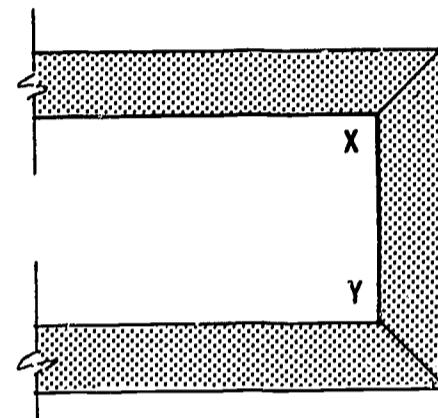

Fig. 62. Forming an inside corner to an inside corner
- If the corner to be formed is like corner X in Fig. 62 (that is, the wall extends from an inside corner to an inside corner), subtract twice the thickness of the flange (or $1/16" + 1/16" = 1/8"$) from the measurement X to Y.